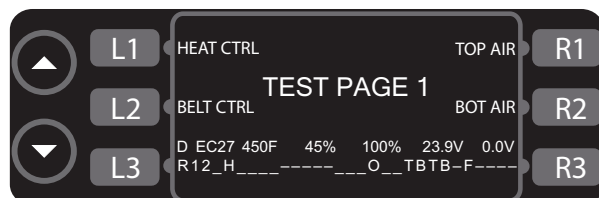
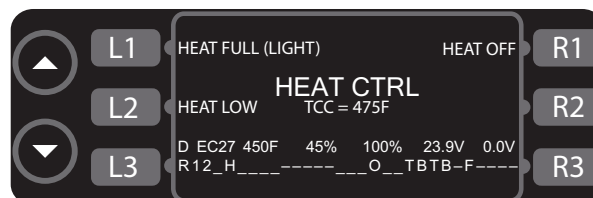
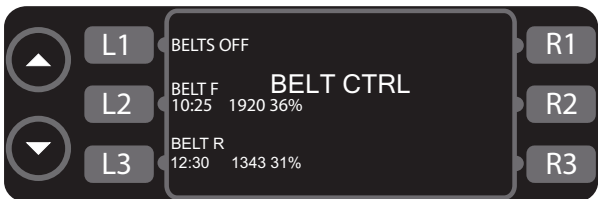

Figure 21: Test Mode Screen 1
Figure 24: Heat Control Screen
Figure 25: Belt Control Screen
The TEST MODE consists of two screens (Figures 21 and 22). Use the up and down keys to navigate between them.
From screen 1 of the TEST MODE (Figure 21), press L1 to access the heat control screen (Figure 24).
From TEST MODE screen 1 (Figure 21, page 17), press L2 to access the belt control screen (Figure 25). Use this mode to verify the belts work correctly. The number after the belt speed shows the pulses read by the HES. The percentage is the amount of drive being asked of the CMSC (100% = 10VDC).
- Figure 21, page 17.